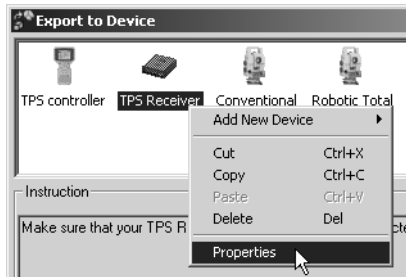

Figure 2-36. Export to Device – Receiver
1. On the *Export to Device* dialog box, right-click the TPS Receiver icon and click **Properties** on the pop-up menu (Figure 2-36).